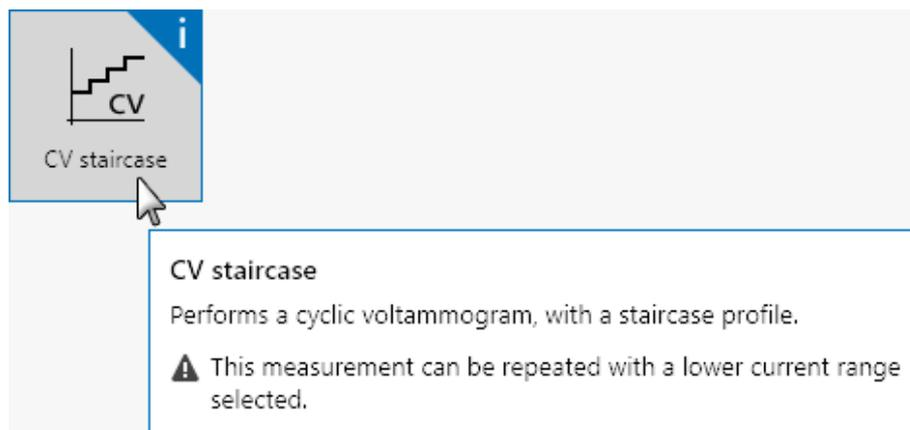

Figure 12 Information is highlighted in blue
- **Information:** any item highlighted in blue indicates that information is available for the user to consider for improving the quality of the data. This indication is only provided at the end of a measurement, if applicable (see Figure 12, page 19).